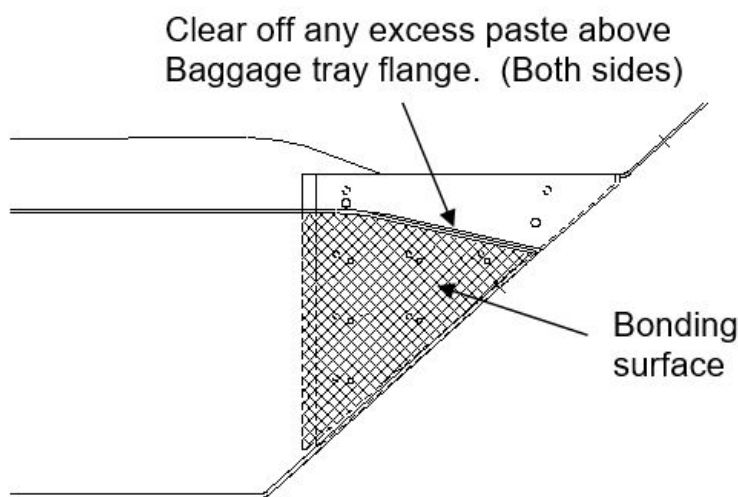

Figure 2. Bonding surface.
11. Apply the mixed resin to all bonding surfaces. Refer to Figure 2.